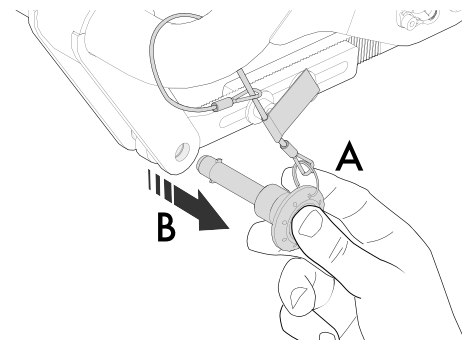

Figure 139. Lock pin for seat equipped with manual quick release. Button (A) releases lock pin.
3. Push the manual quick release button (A in figure 139).
4. Hold the backrest so that it does not drop and pull out the lock pin (B in figure 139).